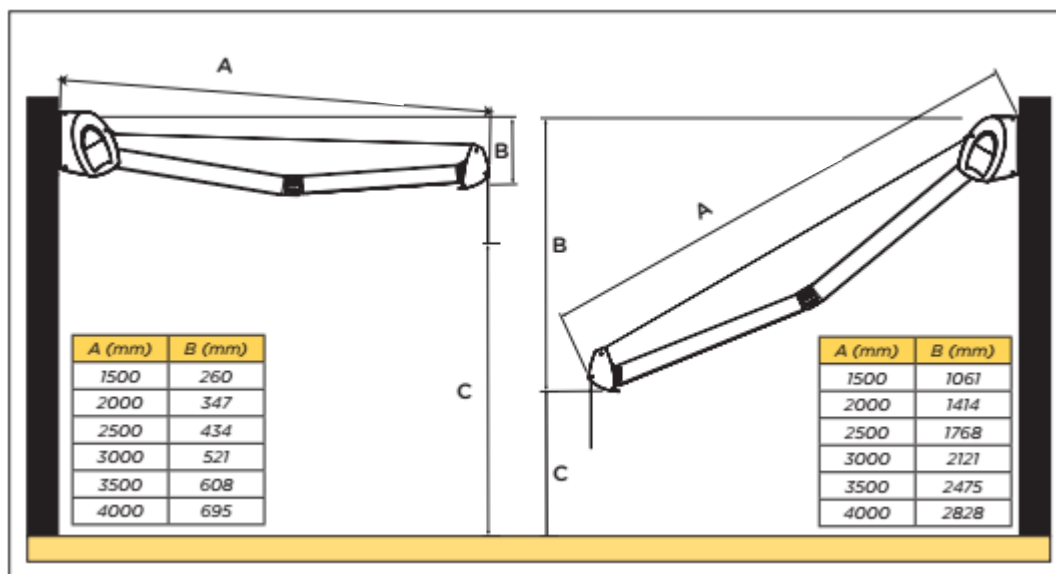

Fig. 3
The minimal angle on the fabric is approximately 10 degrees (Figure 3), while the maximum angle is 45 degrees. A sloping clearance of 400 cm (A) corresponds to a minimal gradient of 69 cm and maximum 283 cm, irrespective of the height of the extension pole. An indication of other measurements and other settings can be found in the schedule of the minimal angles. Now, drill the holes in the wall for the attachment materials.